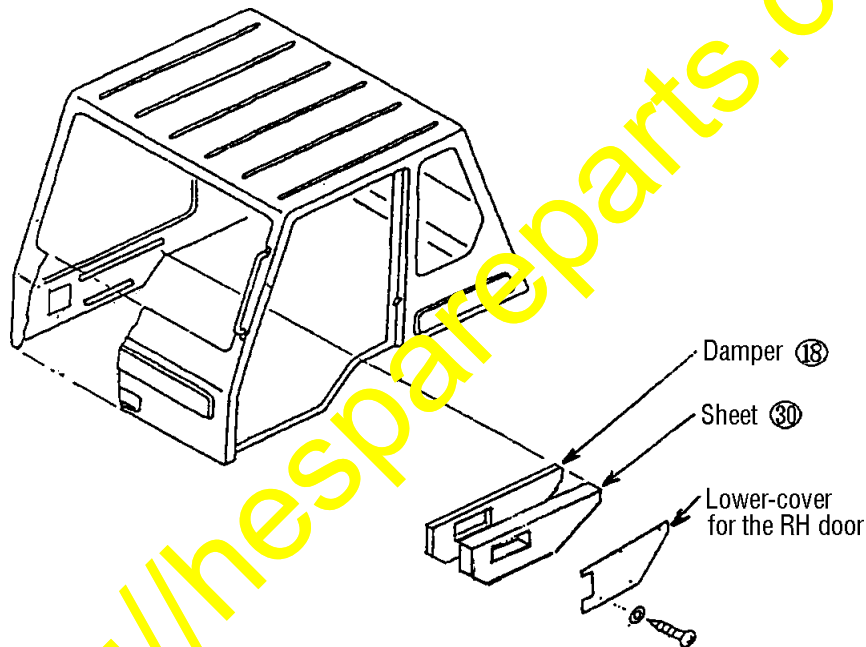

Fig. 4
- (2) Installing the prepared parts to the lower section of the RH door of the operator's cab (Refer to Fig. 4.)